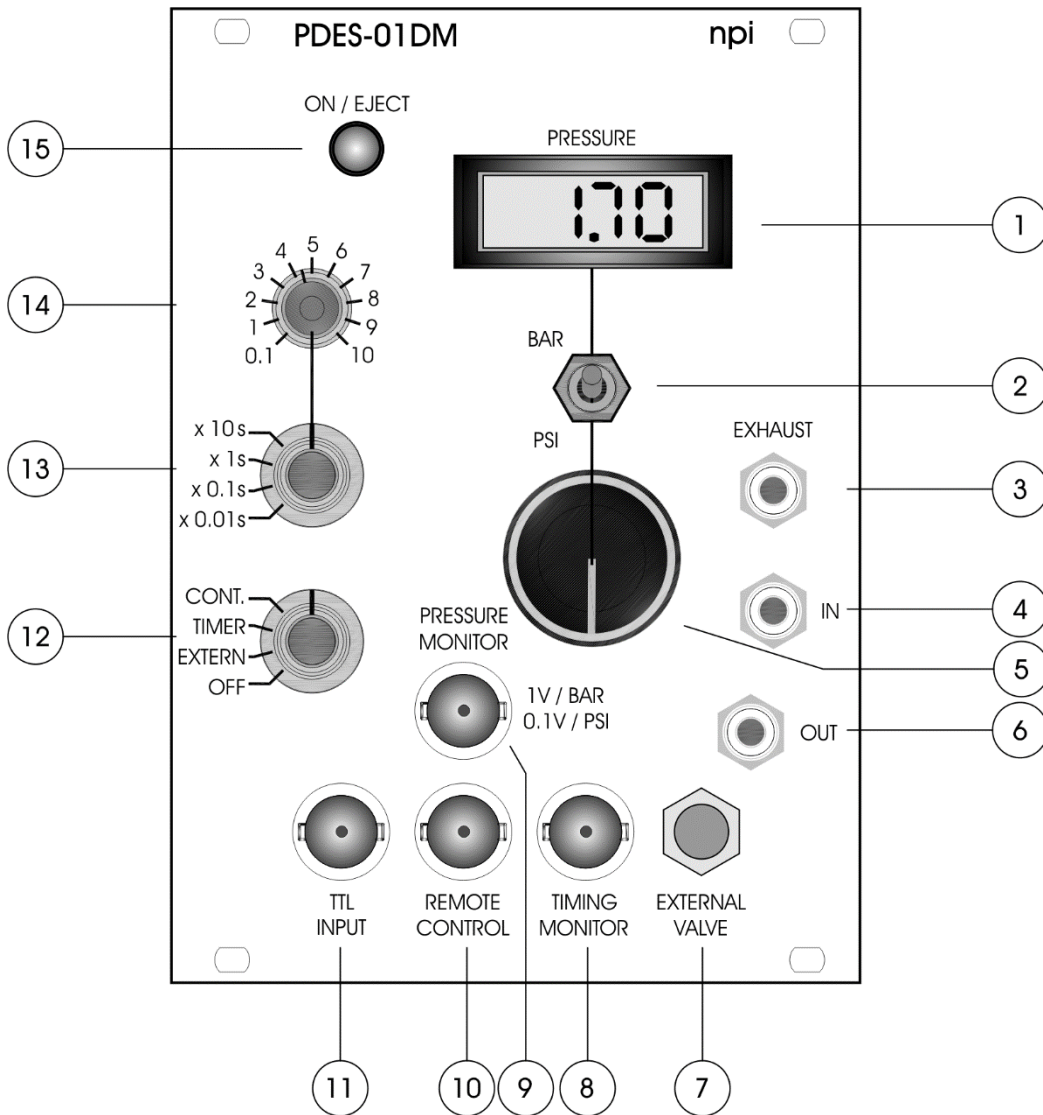
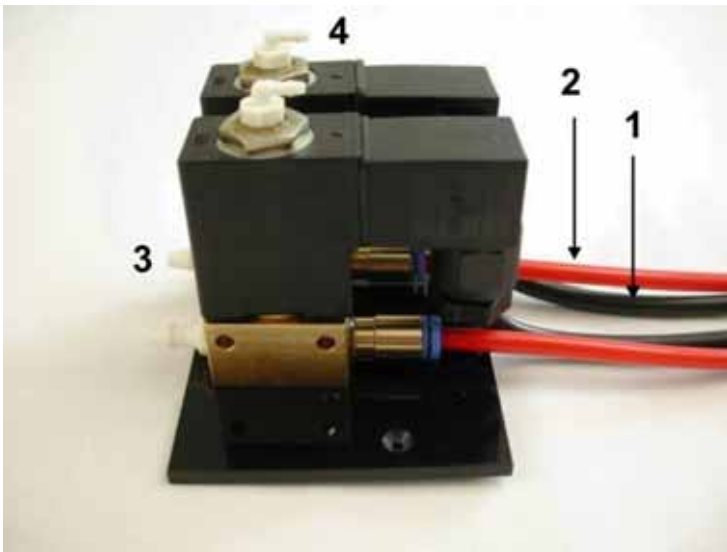

Figure 5: PDES-01DM front panel view (the numbers are related to those in the text below)
Figure 6: external valves on remote valve plate
The valve which is controlled by the PDES is located on the remote valve plate (see Figure 6). Tubing and cable of the external valves are connected at the front panel of the PDES system (refer to chapter 3.3). Exhaust is usually not connected.
- ❑ connect the *microJECT* pipette holder to the two *microJECT* connectors at the front panel (#6 and #7, Figure 5), and connect your ejection pipette to the *microJECT* (#1, Figure 6).
- ❑ Turn on pressure and adjust the pressure to the desired value using the pressure regulator (#5, Figure 5).
- ❑ Connect a timing unit to the TTL INPUT connector (#11, Figure 5) at the front panel
connect a pushbutton to the REMOTE CONTROL connector (#10, Figure 5) at the front panel
- ❑ Select the operation mode using the rotary switch (#12, Figure 5) at the front panel.
- In the TIMER position the duration is preset by the timer control (#14, Figure 5) and time base (#13, Figure 5) of the PDES. Application is started with a TTL signal connected to TTL INPUT (#11, Figure 5) or by pressing the pushbutton connected to #10, Figure 5. In position OFF of the timer control for pressure ejection is disabled.
- In the OFF position the PDES module is turned OFF, the valve is closed. LED (#15, Figure 5) is also off. The source pressure value is still shown at the manometer #1, Figure 5, but opening of the valve is disabled in OFF position.
**Hint:** Ejection time can be monitored by recording the signal at #8, Figure 5!